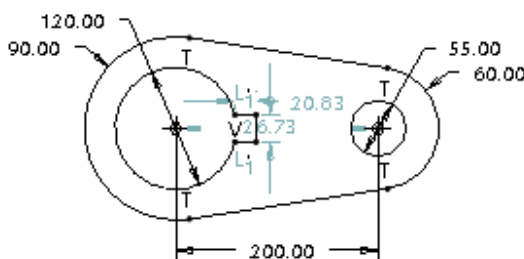

Figure 3-23 Sketch of the keyway with weak dimensions and constraints
- Draw the keyway and dimension it, refer to Figures 3-23 and 3-24.
2. Draw the keyway, as shown in Figure 3-23; the weak dimensions and constraints are automatically applied to the sketch of the keyway.